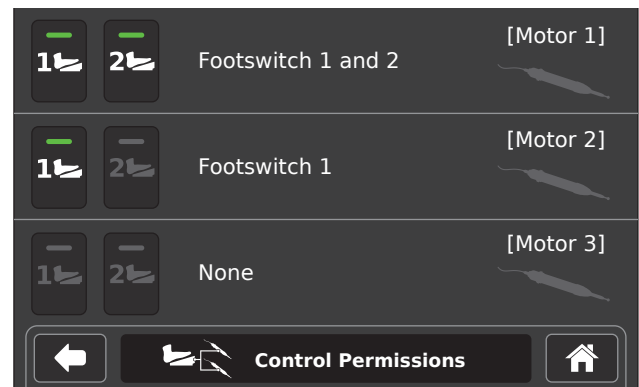

Figure 16 – Control Permissions Screen
2. For each connected motor, set control permissions as necessary (Figure 16).